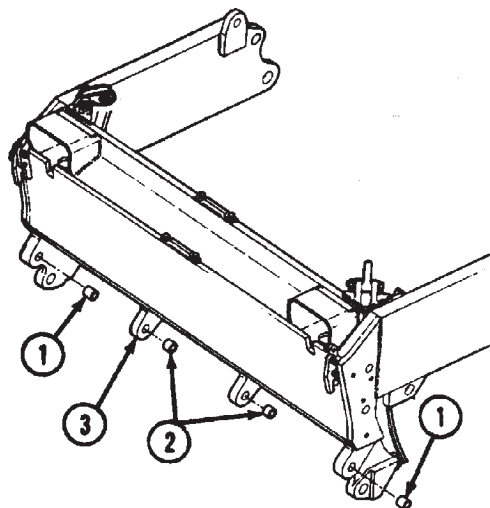

Figure 29. Installation of Bushings onto Apron.
Step 1 applies to Figure 29.
1. Using hammer and soft drift or wood dowel, install two outer bushings (1) and two inner bushings (2) on apron (3). Coat inside of bushings (1) and (2) with grease.